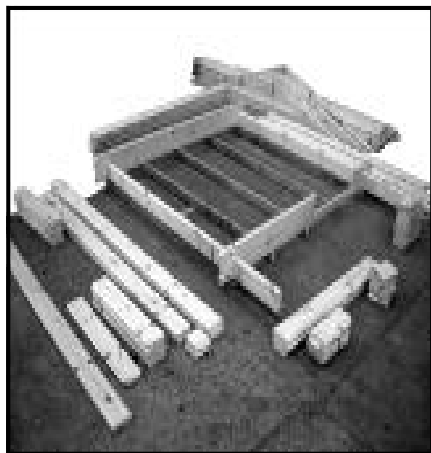

Fig E1-example
1. Using parts list for each wall layout correct quantity (fig E1) of each component for relevant wall (i.e. front, back) in suitable position for ease of assembly.